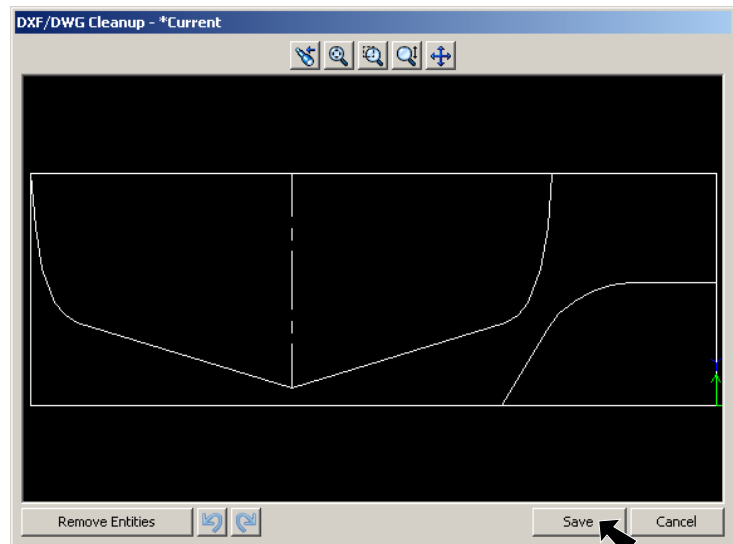

Fig. 46
Step 10. In the DXF/DWG Cleanup dialog box click Save, **Fig. 46**.